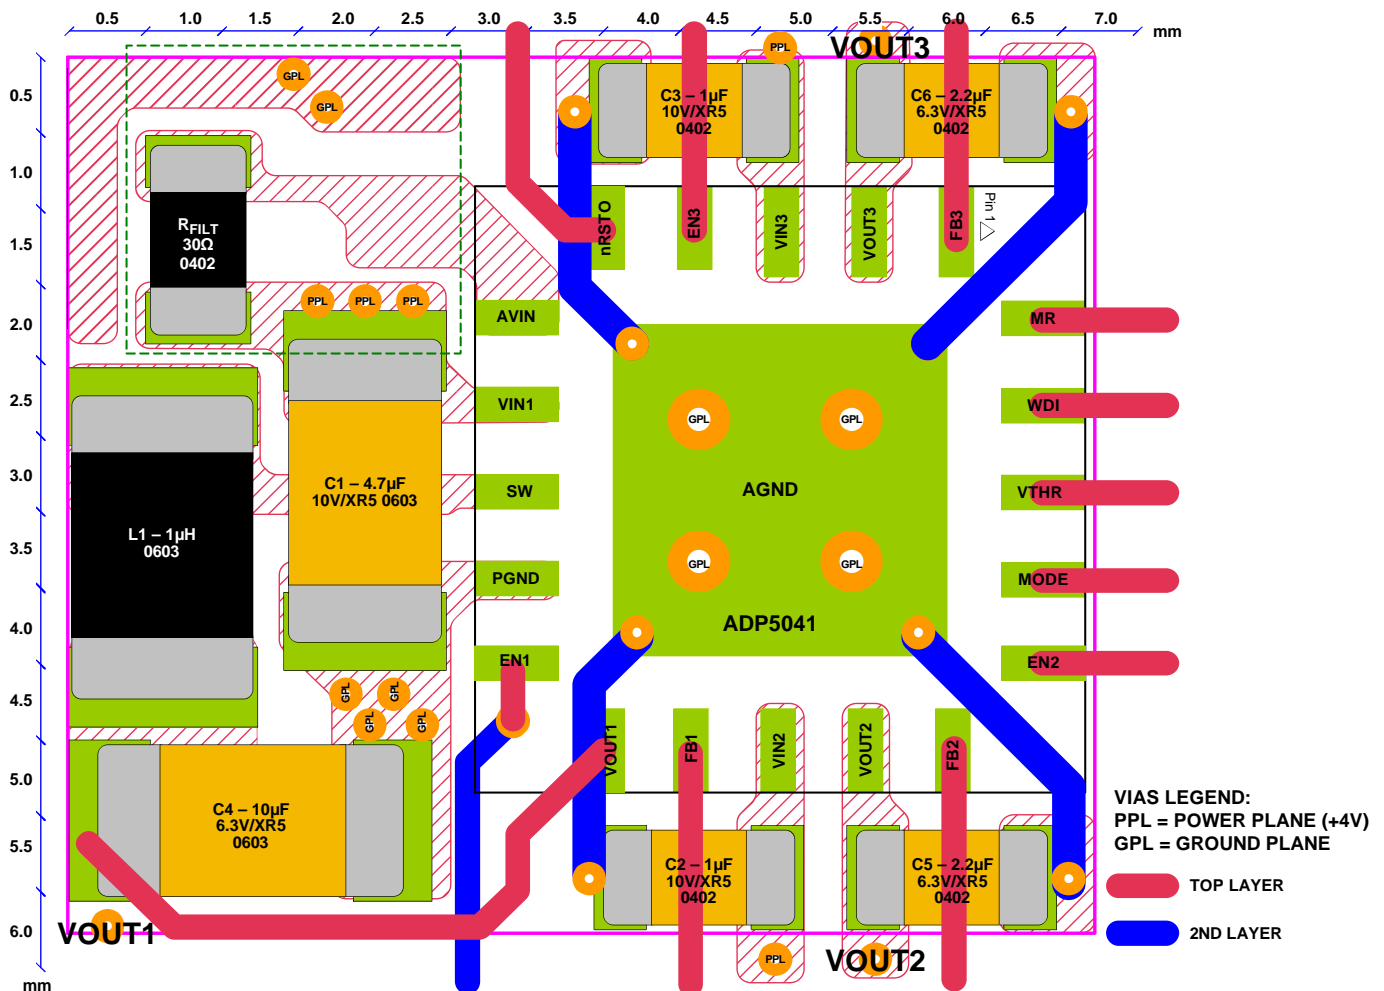

Figure 114. Suggested Board Layout
The typical θ_{JA} value for the 20-lead, 4 mm \times 4 mm LFCSP is 38°C/W (see Table 7). A very important factor to consider is that θ_{JA} is based on a 4-layer, 4 inch \times 3 inch, 2.5 oz copper, as per JEDEC standard, and real applications may use different sizes and layers. To remove heat from the device, it is important to maximize the use of copper. Copper exposed to air dissipates heat better than copper used in the inner layers. The exposed pad (EP) should be connected to the ground plane with several vias as shown in Figure 114.
See Figure 114 for an example layout.